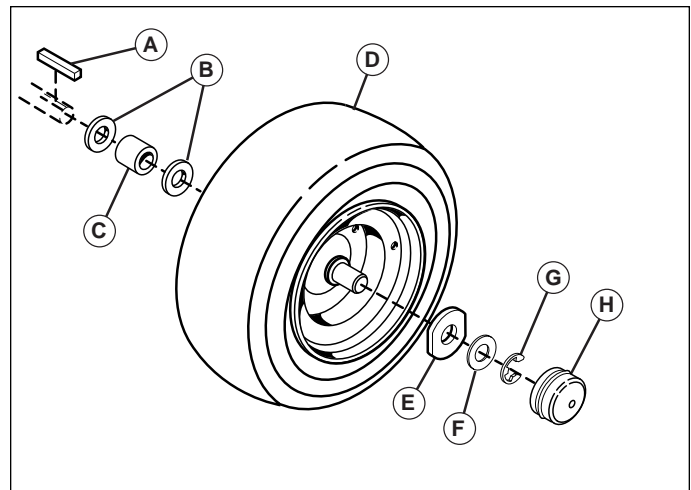

Figure 18. Rear Axle Hardware
5. Reinstall the components in reverse order of disassembly and lower the unit. Be sure the key (A, Figure 18) is in place in the axle keyway.